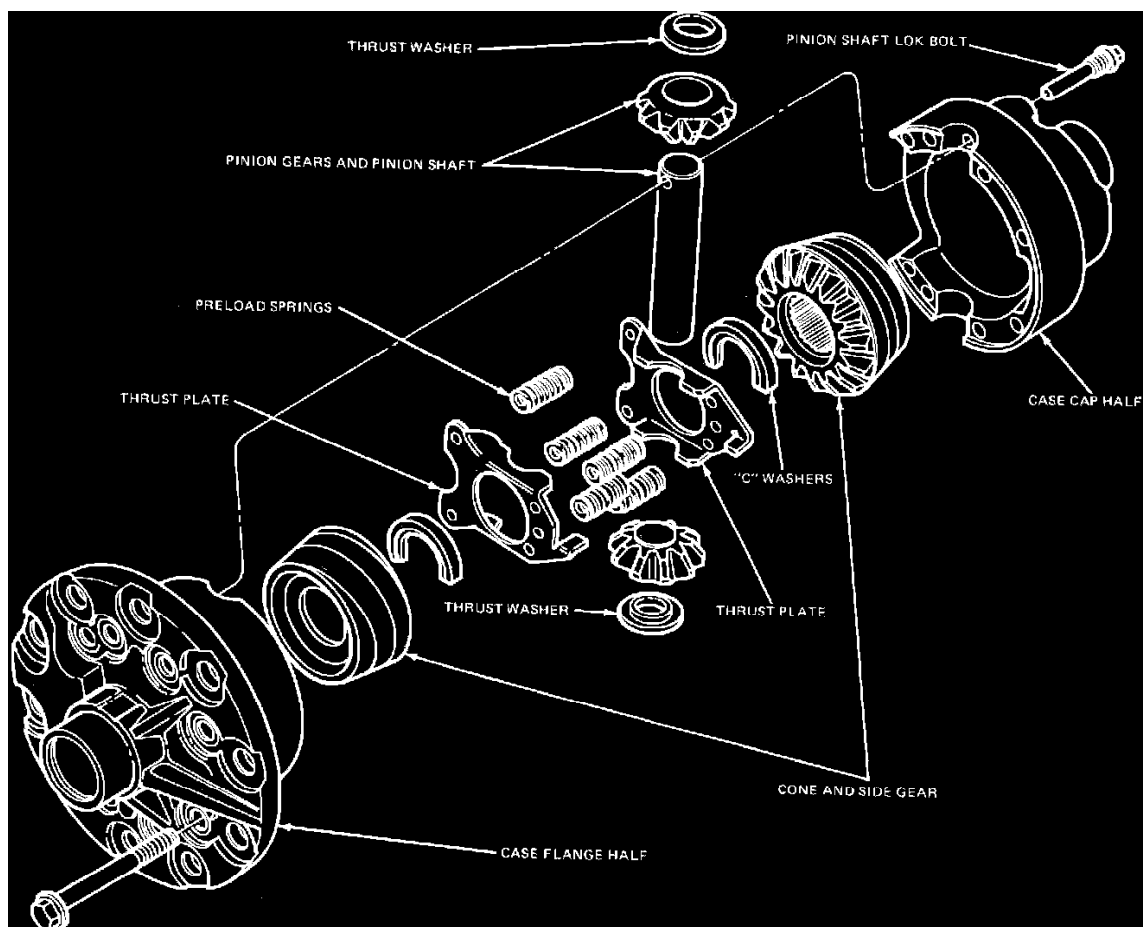

Fig. 6 Exploded view of cone type limited slip differential
1. Place differential case, Fig. 6, in large vise to load case at bearing journals so that preload of springs is overcome.